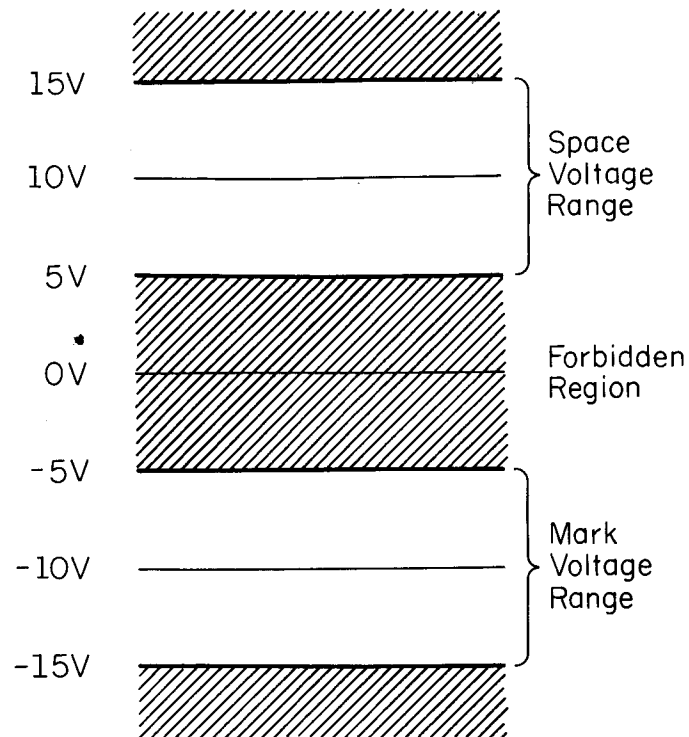

Figure 1.3 Input Voltage Limits
The input voltage must fall between +5V and +15V for space pulses, and between -5V and -15V for mark pulses, as shown in Figure 1.3. Pulse voltages falling in the forbidden region between -5V and +5V will cause display errors. The input voltage, however, can be made compatible with TTL logic levels, as explained in note 1 of Table 1.2. An optional loop interface allows the RVD-1002 to be connected directly in a DC machine loop if desired. See Table 1.2.
The RVD-1002 is very simple to install, as Figure 2.1 illustrates. First, connect the output of the terminal unit (TU) to the serial input jack, using the phone plug and shielded cable supplied with your unit. If you are using a terminal unit other than the Mainline series, be sure that the output voltages meet the requirements shown in Figure 1.3.